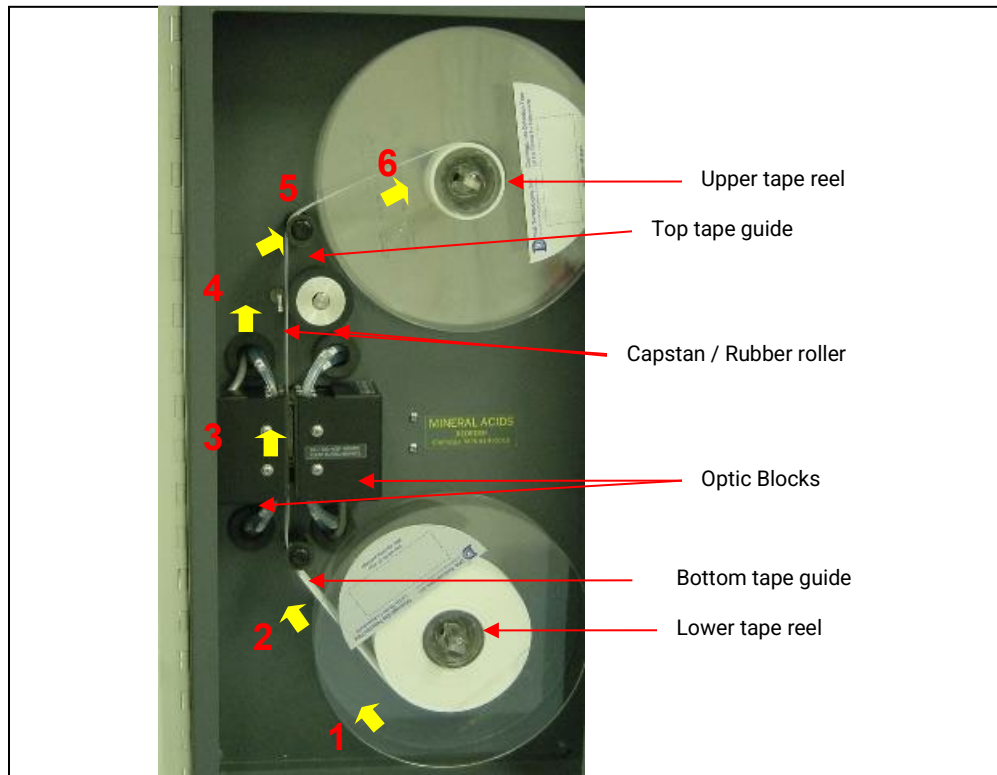

Figure 6.1
- F. Secure the new ChemLogic tape reel on the bottom as shown in Figure 6.1. The tape should be around the bottom in a clockwise direction as shown.
- G. Feed the tape as shown with the arrows in Figure 6.1.